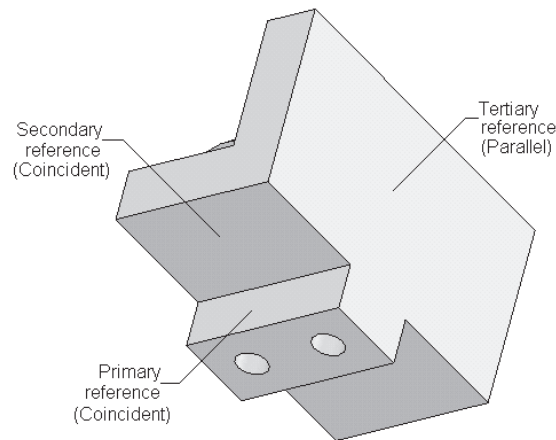

Figure 12-57 Faces to be selected as mate references
13. Similarly, create the mate reference in the Vice Jaw part document. The faces to be selected as reference are shown in Figure 12-57. For both the part documents, enter the same name in the **Reference Name** rollout.